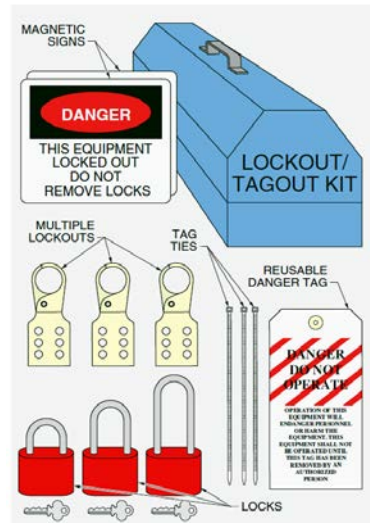

Figure 6: Lockout/Tagout Kit
- To avoid possible injury make sure that the control power is **shut off and remains off** until personnel are safely clear of moving parts. Follow lockout/tagout procedures as per your authority (Figure 6).